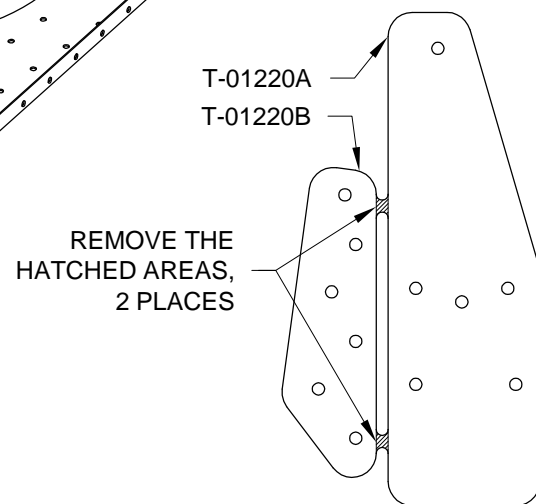

FIGURE 3: SEPARATING THE DOUBLERS
Step 6: Separate the T-01220 Doublers as shown in Figure 3.